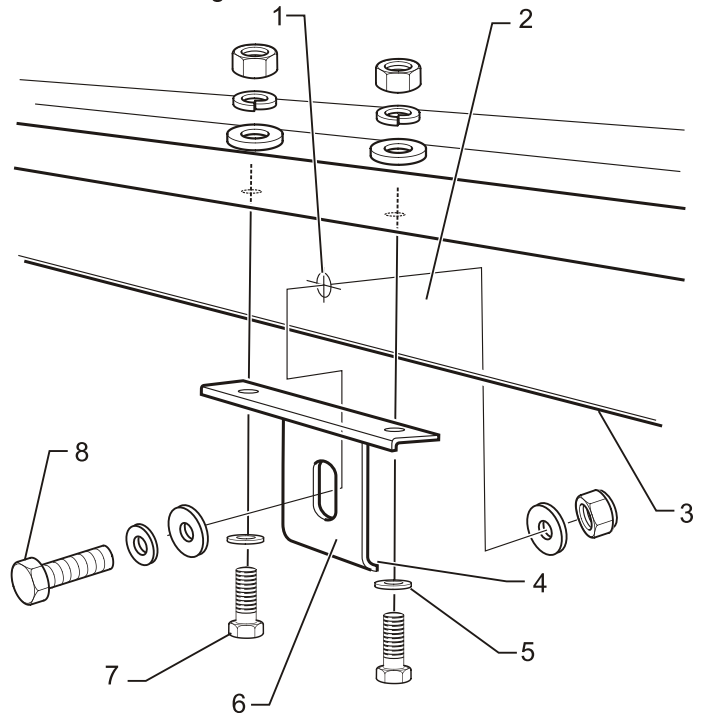

Figure 13
22. De-burr the hole and treat the hole with the G16 anti-corrosion grease supplied. Attach the bracket with the bolts, spring washers, flat washers and nuts to fix the mid point of the canopy (2).
23. Use a M8x25 bolt (8), a spring washer and a flat washer to fit the centre canopy bracket to the tray with a flat washer and nut behind the channel of the canopy, ensuring the lip on the bracket is under the edge of the tray side and fix the canopy bracket to the vehicle. Tighten down the bracket to canopy bolts. Refer to figure 13.